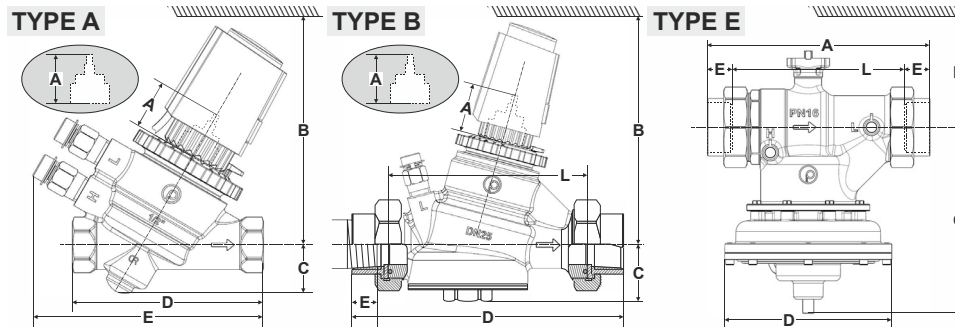

Fig. 6. Dimensions
**NOTE:** The dimensions of the replacement connection parts differ slightly from those of the original parts. In particular, the dimensions of the pipe-thread and the length may differ. When these spare parts are installed, the resultant overall dimensions of the V5004T may thus differ from those depicted in Fig. 6.